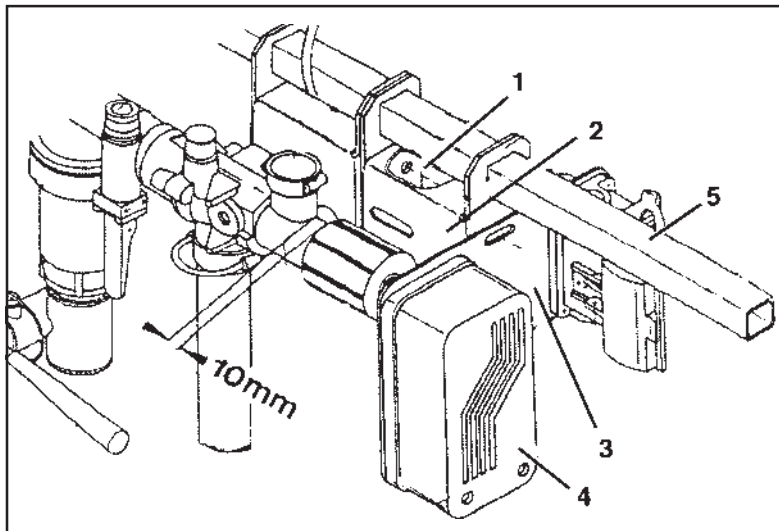

Fig. 8.6
- Remove the bolts (Fig. 8.6/ 1) from the governor carrier (Fig. 8.6/ 2).
- Slide to the right the governor carrier with the flange plate (Fig. 8.6/ 3) for the electric motor (Fig. 8.6/ 4) on the counter bracket (Fig. 8.6/ 5) until the electric motor and the metering screw of the automatic metering are no longer connected with one another.